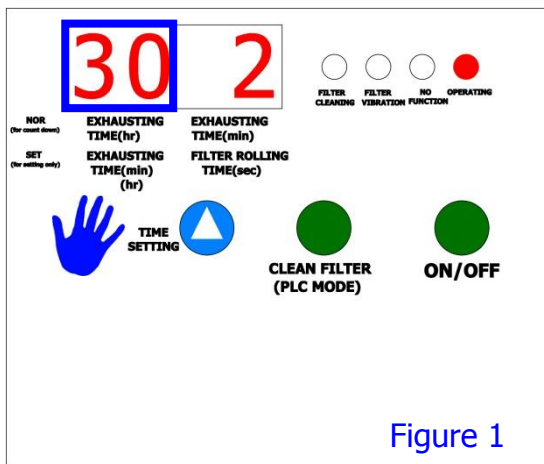

Figure 1
2. When IC Panel in SET position, press ▲ (figure 1) to set exhausting time, from 30 mins to 1 hour (figure 2)